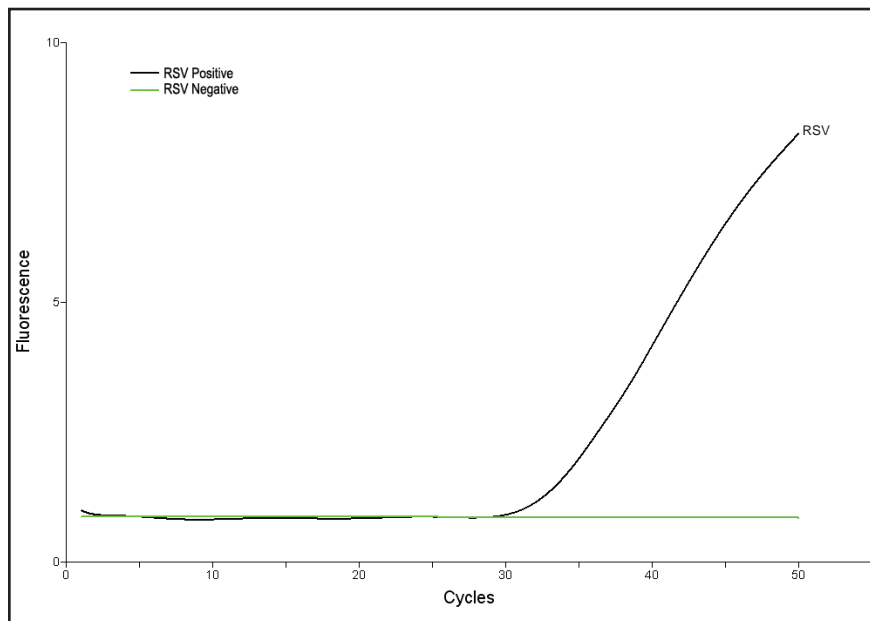

Figure 1. Real-time graph of RSV results.
8. Representative real-time PCR result is shown in Figure 1